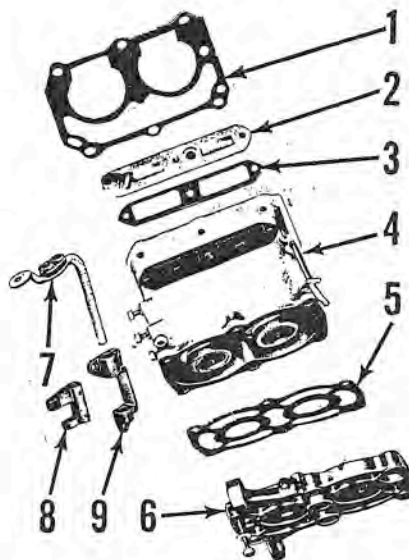

Fig. M12—Exploded view of power head cylinder and component parts.
Remove the spark plugs, then unbolt and remove the cylinder assembly from the crankcase, crankshaft and pistons assembly. Cylinder block cover (6—Fig. M12) and inlet port cover (2) should be removed for inspection and cleaning of the block.